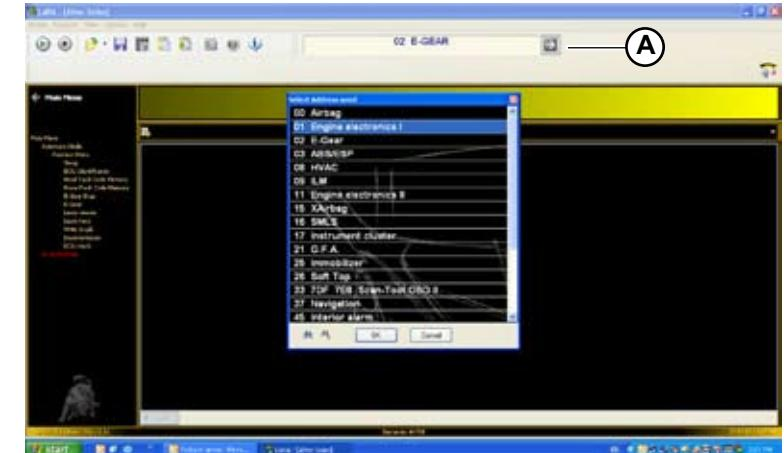

Fig.27
- Select the control unit to be checked “Engine electronics I” (A-Fig.27) and start the connection (➤).